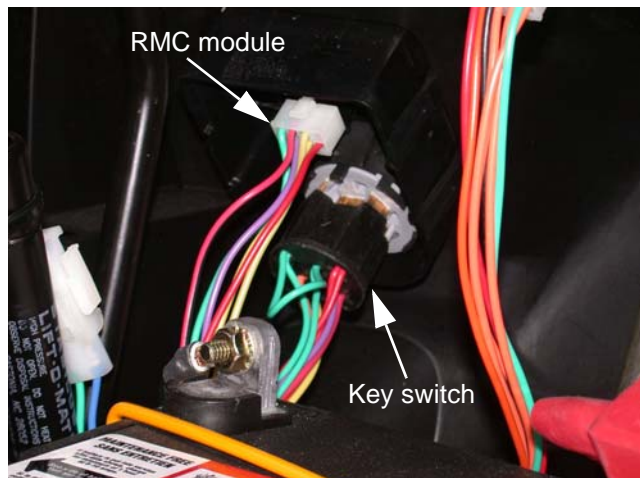

Figure 38.3
- 38.3. The **Key Switch** is similar to those used in a variety of MTD applications since 1999. The difference in this case is that it is incorporated in the same housing as the RMC module; the two items are not available separately. See Figure 38.3.